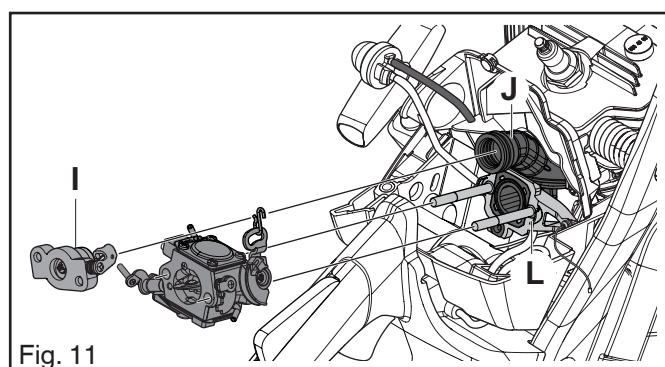

Fig. 11
11. Pull out the carburettor and the air valve (I) from the flange (L). See Figure 11.
12. Remove the air valve (I) from the carburettor. See Figure 11.
2. Hook the air valve (I) to the carburettor as outlined in Figure 11.
3. Attach the air valve (I) to the inlet pipe (J). See Figure 11.
4. Fit the carburettor on the flange (L) Figure 11.